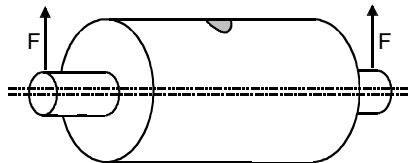

Figure 49: Static balance
**Static balance** occurs when the rotor axis and the mass axis are not coincident, but both axes are parallel to each other. Figure 49 shows the amount and direction of the resulting unbalance forces. The force acting on both bearings is the same.